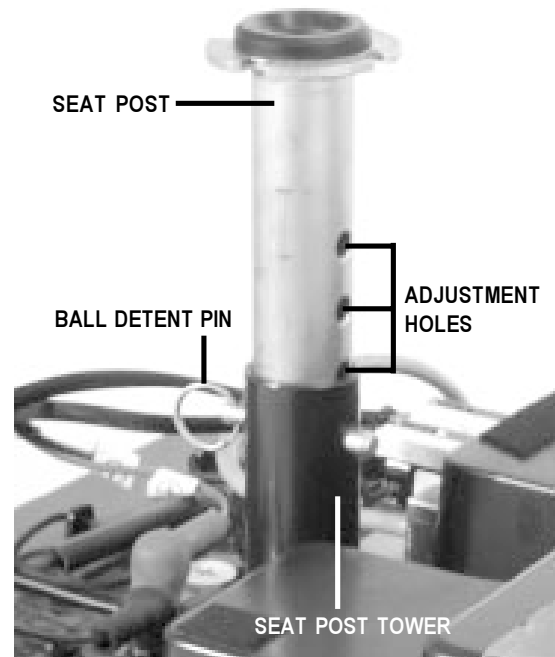

FIGURE 16. SEAT HEIGHT ADJUSTMENT
2. Use the attached ring to pull and remove the ball detent pin from the seat post tower. See figure 16.